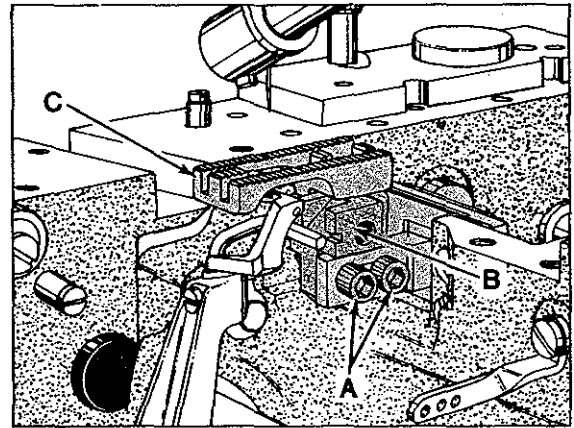
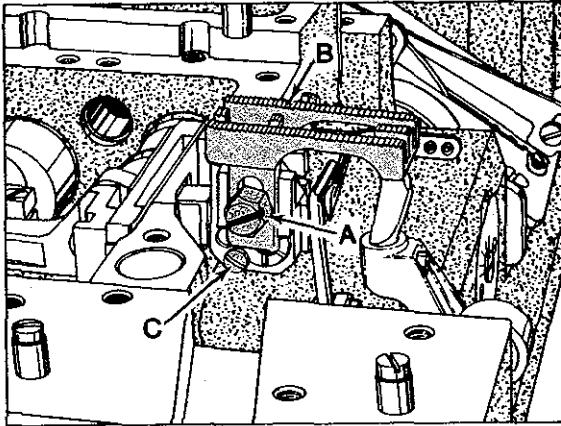
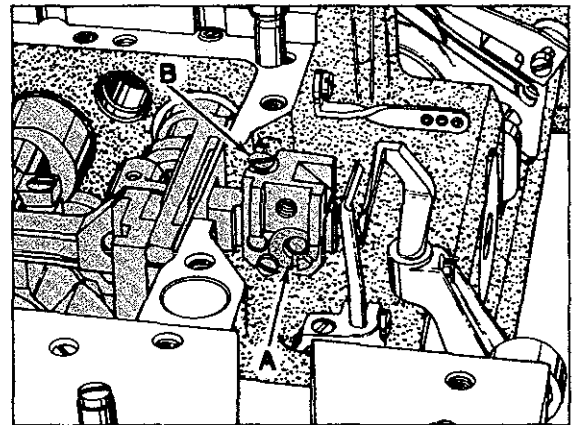

Fig. 13
Fig. 14
Fig. 15
Front to rear adjustments can be made by loosening two screws (A, Fig. 13), reposition feed dog holder (B) as required. Press down on front of feed dog (C) while tightening screws (A).
Parallel adjustment can be made by removing throat plate, loosen two screws (A, Fig. 13) and screw (A, Fig. 14) so feed dog (B) can be raised enough to loosen locking screw (C).
Set feed dog to proper height with feed dog height supporting screw (B, Fig. 15) to maintain this setting; tighten screw (A, Fig. 14) while pressing down on front of feed dog. Replace throat plate.
Turn feed dog tilting cam (A, Fig. 15) as required to level feed dog - check parallelism by positioning throat plate; retighten screw (C, Fig. 14) and screws (A, Fig. 13) while pressing down on front of feed dog.